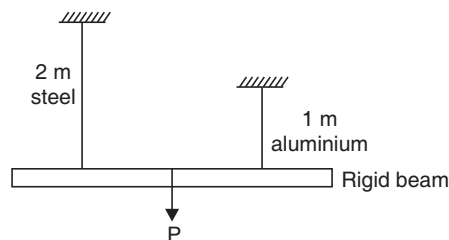

FIGURE 8.37
39. A rigid beam of negligible weight is supported in a horizontal position by two rods of steel and aluminium 2 m and 1 m long having values of cross-sectional areas 1 cm^2 and 2 cm^2 and E of 200 GPa and 100 GPa respectively. A load P is applied as shown in Fig. 8.37.